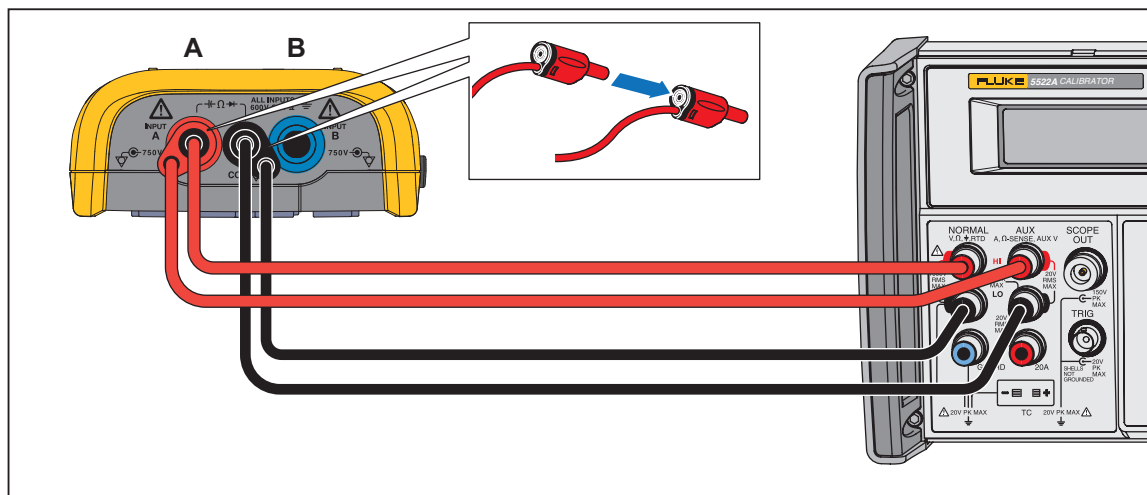

Figure 12. Four-Wire Ohms Calibration Connections
11. Connect the Test Tool to the Calibrator as shown in Figure 12.